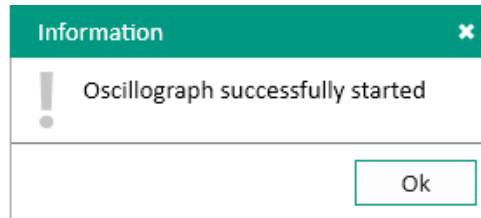

Figure 16 – **Start disturbance recorder** command window
- start disturbance recorder. The command is intended for manual start of disturbance recorder on the device. The command execution window is shown in figure 16;